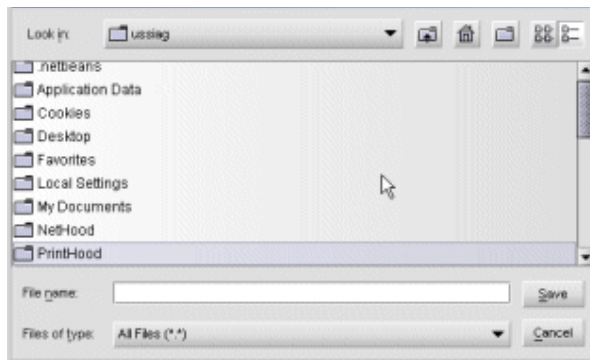

Figure 57: New Firmware Version dialog box
4. Click **New**. The New Firmware Version dialog box displays (Figure 57).